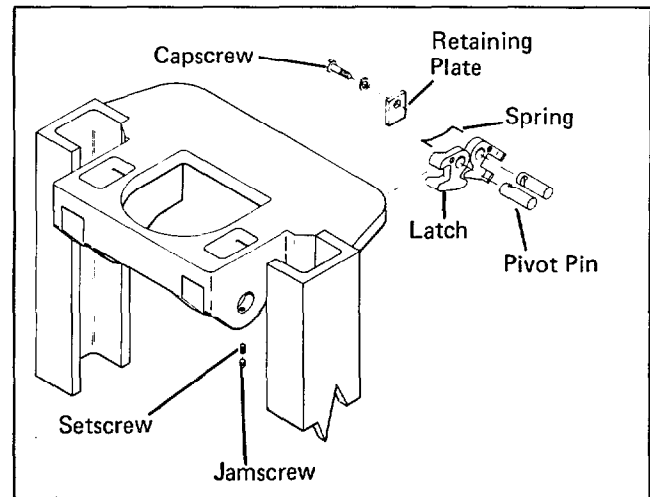

Figure 4-11 Latch Mechanism
9. Inspect the latch mechanisms. Replace any component that is visibly damaged. See figures 4-11 and 4-12.